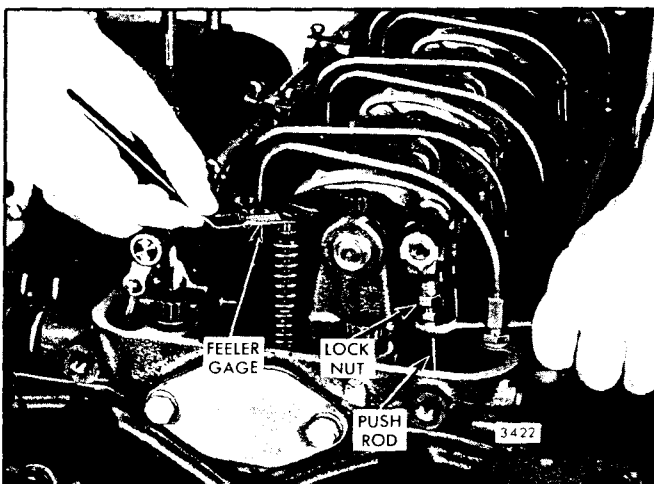

Fig. 1 - Adjusting Valve Clearance (Two Valve Head)
5. Place an .011 " feeler gage, J 9708, between the exhaust valve stem and the rocker arm (Fig. 1). Adjust the push rod to obtain a smooth pull on the feeler gage.